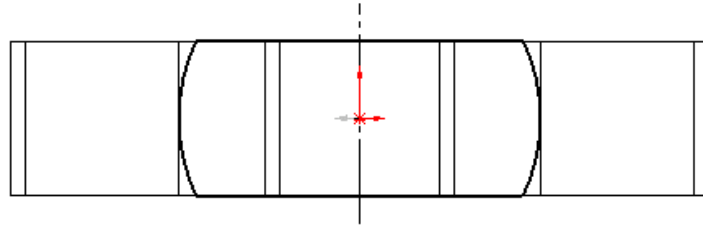

Figure 6-82 Sketch of the second feature
- Create the second feature, which is a cut feature, on the top planar face of the base feature, refer to Figures 6-82 through 6-84.
The sketch of the second feature is shown in Figure 6-82.